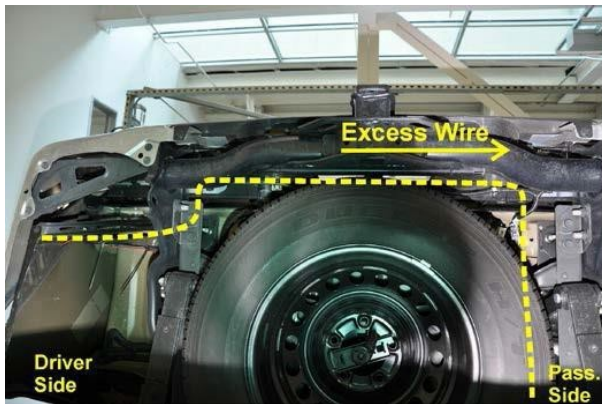

Figure 2e
11. Route the driver side Bed Light LED wire harness along the factory wire harness toward the passenger side at the rear of the bed near the spare tire, bundling any excess wire on passenger's side as illustrated. (Fig. 2e)